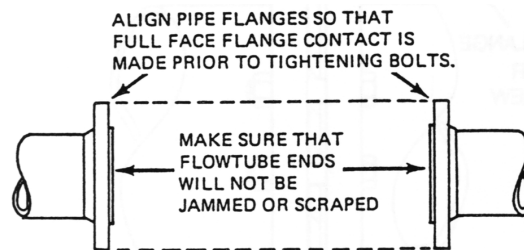
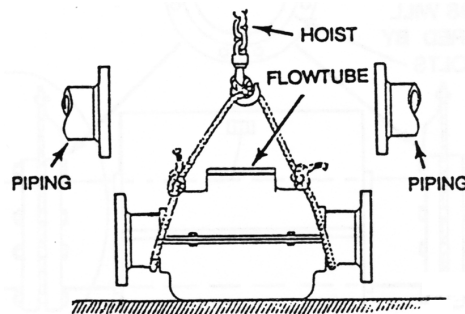

Figure 12. Piping Alignment for Flanged End Flowtube
Figure 13. Hoisting Flowtube into Place
1. Before installing flowtube, install and adequately support the piping. Adjust piping and flanges so that flanges will be aligned and parallel with flowtube flanges when flowtube is installed. Flanges must **not** be forced into alignment during installation of flowtube. See Figure 12 for correct alignment of piping. See Figure 13 for correct use of hoist in installing flowtube. Also allow for thermal expansion of piping during operation, as required.
- a. Hoist flowtube into place (see Figure 13).